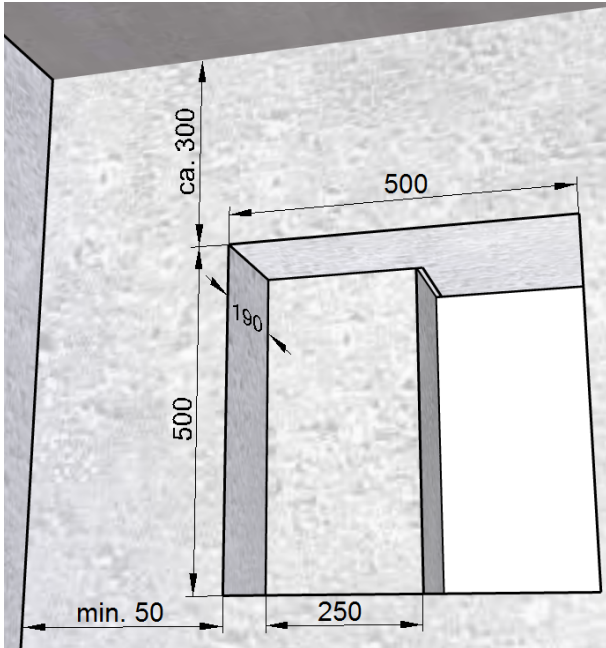

Fig. 6: Wall breakthrough for installation kit **without** filler piece, dimensions in millimetres
- Wall breakthrough with recess (see Fig. 6) for installation kit **without** filler piece M-WRG-M/Fü
- Wall breakthrough with recess (see Fig. 6 on page 13) for installation kit **without** filler piece M-WRG-M/Fü